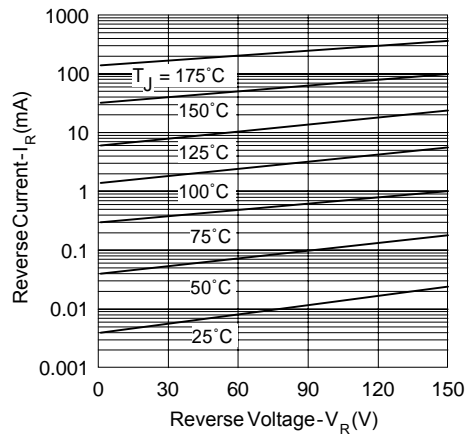

Fig. 2 - Typical Values Of Reverse Current Vs. Reverse Voltage
| I_{RM} Max. Reverse Leakage Current (1) * See Fig. 2 | 3 | mA | $T_J = 25^\circ\text{C}$ |